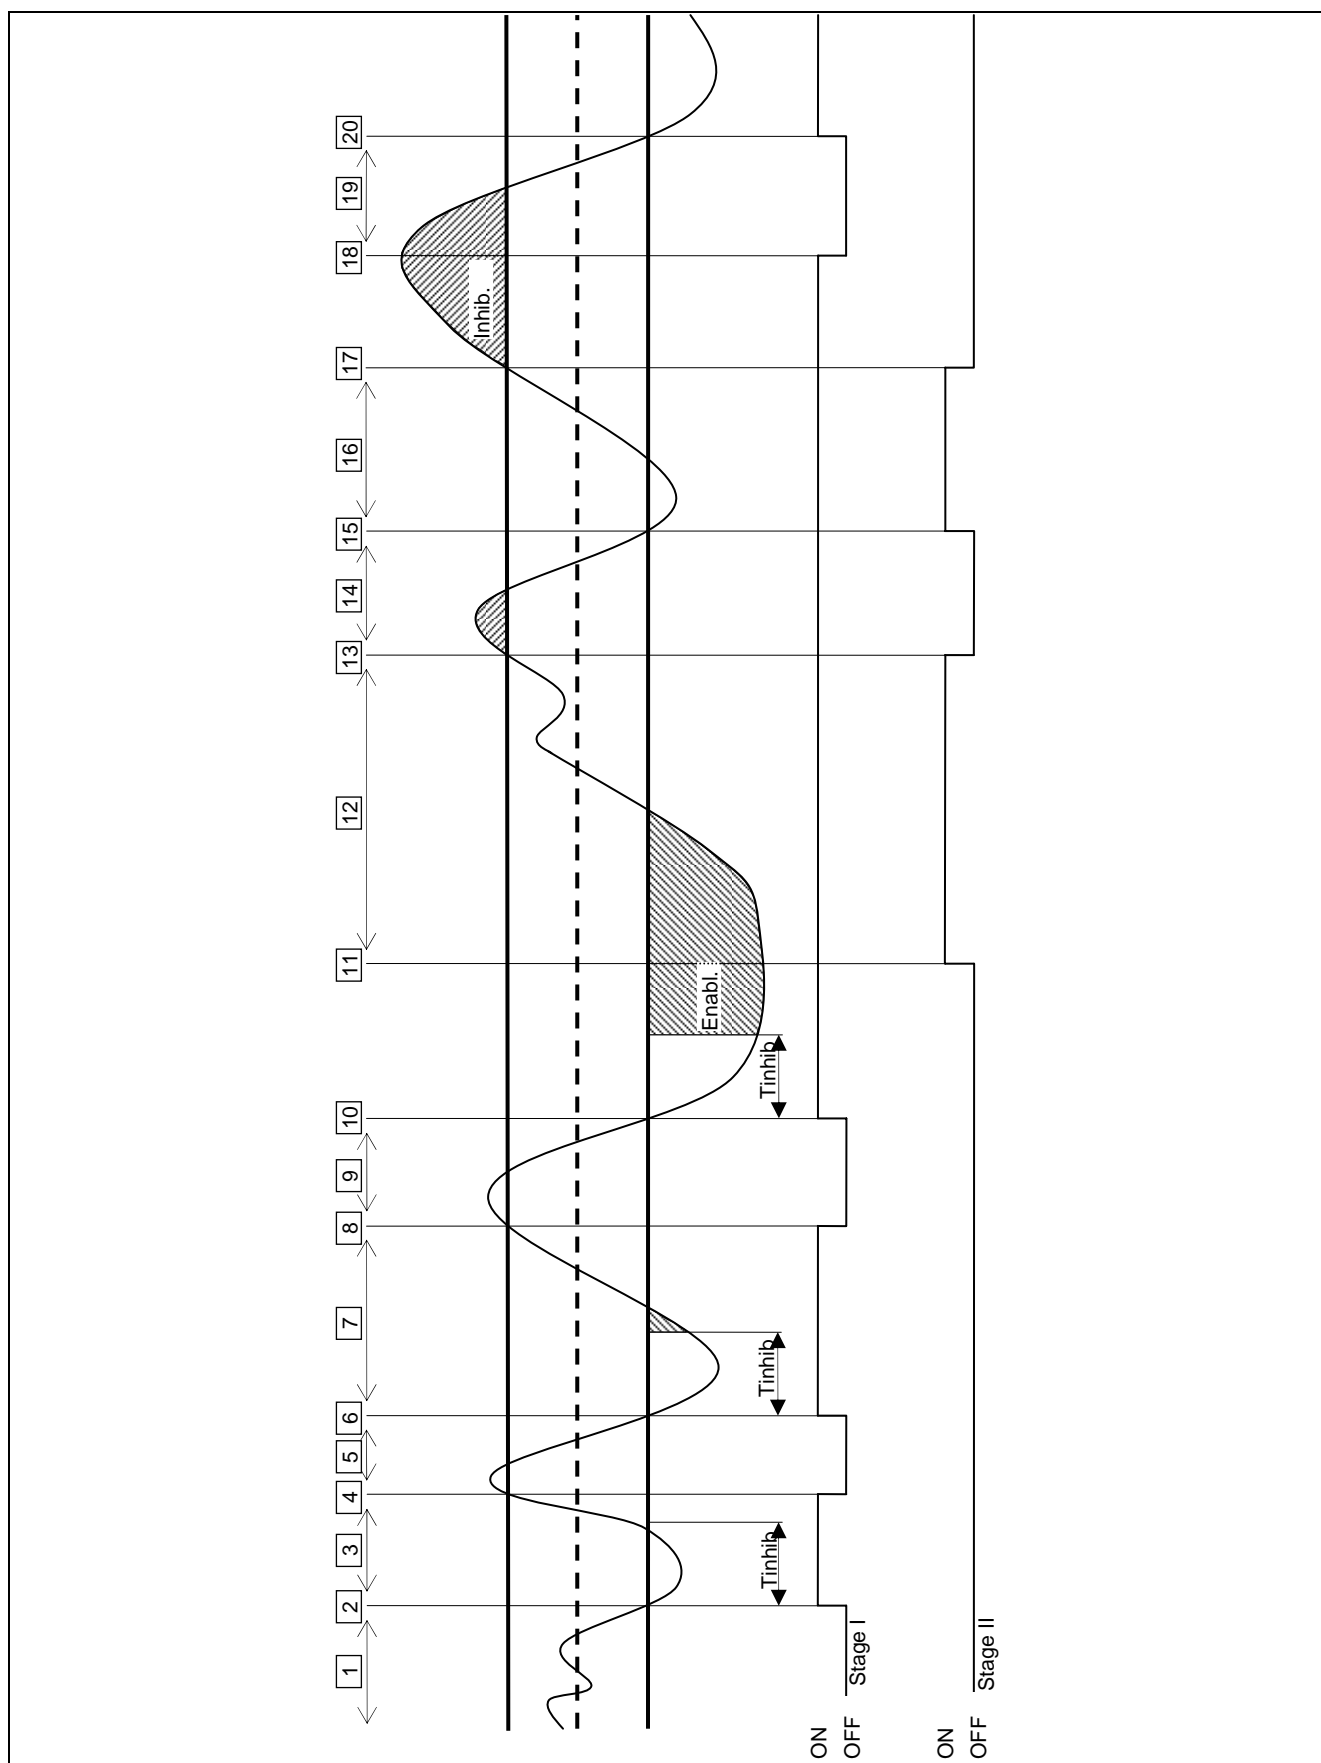

Figure 16
Successively, the regulation algorithm is illustrated via an example of evolution of the water temperature through time. It is assumed that the system is made up from two stages belonging to a unique category and that the initial condition is within machines all off and temperature of the water within the differential band. In the following description, refer to Figure 16.
A. **Zone 1 of the graph in Figure 16:** while the temperature of the water remains within the differential band centred around the set point, the regulator keeps all machines off.
- A blocked stage is released (and switch-on) if the area that represents the energy deficit, calculated starting from the expiry of "**prevention time**", reaches the "**enabling integral**" (Figure 16) value.
This further parameter is present for every category. This allows to define the minimum switch-on time of every stage of the category and has the purpose of preventing that the machines are kept on for a period that is too brief, with negative impact on the yield of the same. In practice, when a stage is switched on, it can be switched off only after the **“minimum switch-on time”** has passed, whatever the rules of the regulation algorithm described in the relative paragraph; for example, referring to Figure 16, if the time passing between points 2 and 4 is less than the **“minimum switch on time”**, the first stage would not be switched off in point 4, but later, after the **“minimum switch on time”** calculated from point 2. It is clear that the use of too high a value of this parameter can lead to poor regulation, as the respect for the minimum switch on time will cause frequent and consistent breaches in the rules of the normal algorithm; on the other hand, too low a value will lead to the machine being switched on for very short periods, which will compromise yield.